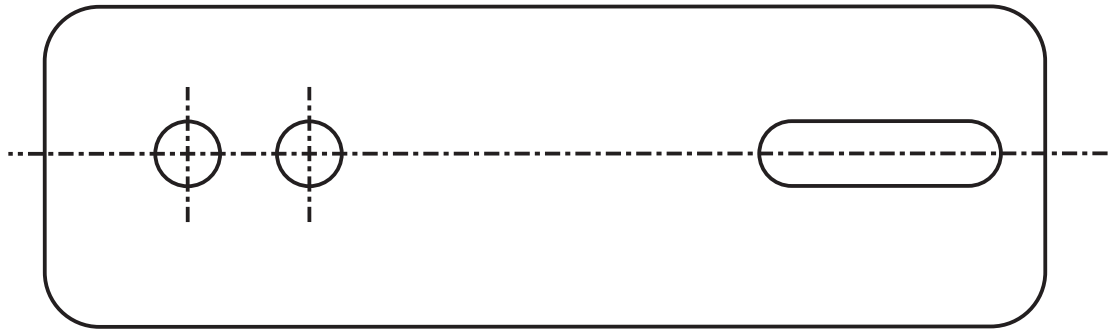

Fig. 1
- 2 **Fig. 1** shows an aluminium bracket which a company is going to produce using a computer aided manufacturing process.